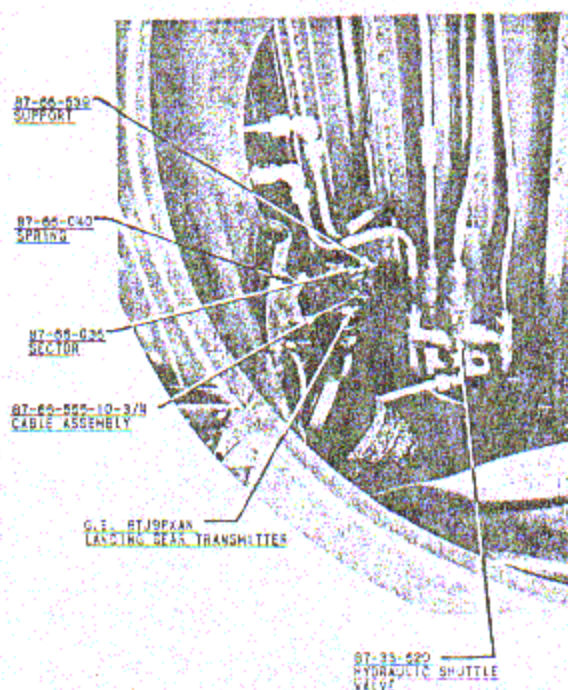

Fig. 18 - Landing gear position transmitter - installed.
**Landing Gear Position Indicator:** Refer to Figures 18, 36, and 45. To adjust the landing gear position indicator, hoist the airplane so that the landing gear can be raised and lowered.